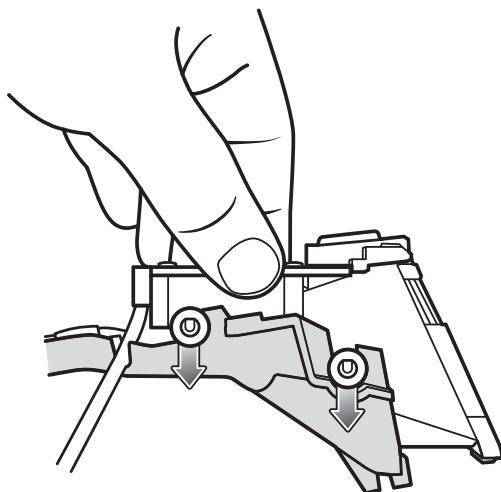

Figure 7-12 Inserting the Scan Module into the Bracket
10. Insert the scan module into the right side of the bracket. Ensure the gaskets on the scan window fit securely into the bracket sockets as shown in Figure 7-12. The module should snap into place when securely seated.